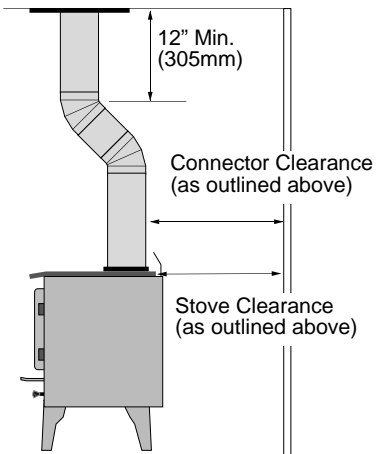

Figure 11
- If using offsets, use the connector clearance listed in Figure 11, **not the connector manufacturer's clearance.**